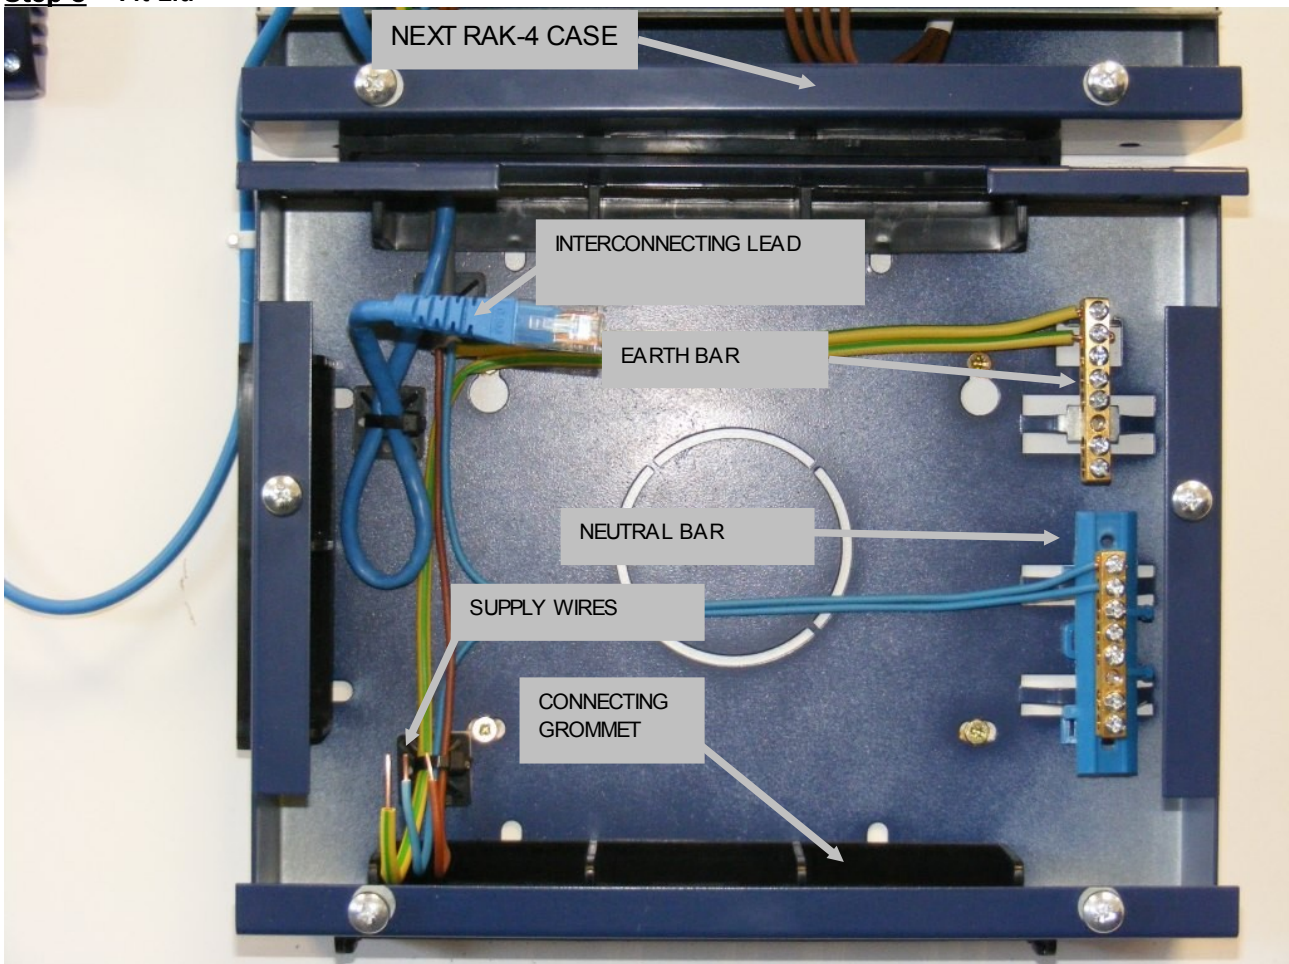

FIGURE. 1
Step 2 - If multiple RAK-4s are to be joined to form a larger 'stack' mount and join the other cases to join the original case using the connecting grommets (see Fig.1) cutting away enough plastic to allow cable access.
Step 3 - Bring a separate 10A MCB protected supply to each RAK-4 case. Connect the Earth and Neutral supply to the appropriate connector block and leave the Live ready to connect to the circuit board. Bring a feed from both the Earth and Neutral bars ready to connect to the circuit board (see Fig.1) Also feed the load Lives and prepare ready for connection to the circuit board and connect the load Neutral and Earths to the appropriate connector block.